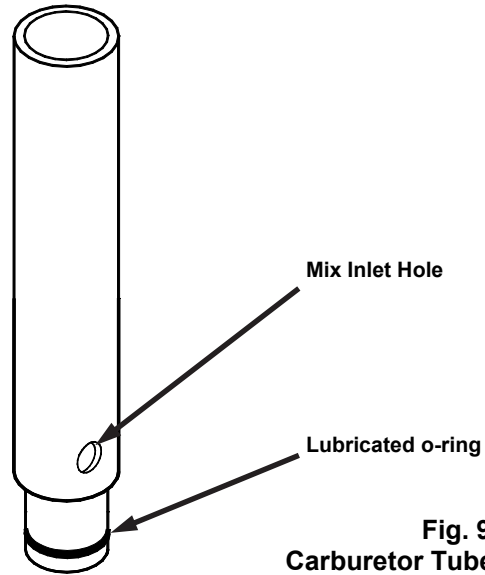

Fig. 9
6. Remove the carburetor tube (Fig. 9) from the mix pan. Disassemble and clean in the following manner: